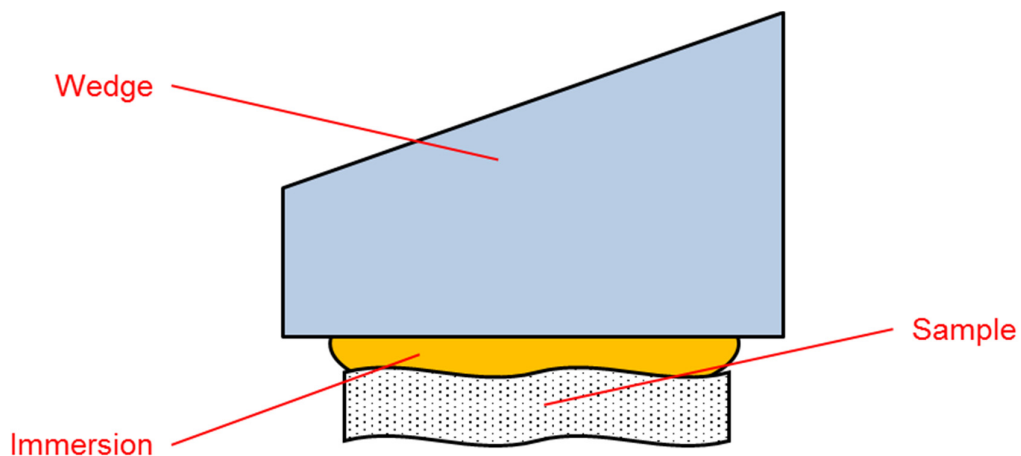

Figure 48 Avoiding Strong Surface Reflection by Use of an Immersed Wedge
- Introduction of a wedge into the optical path (first reflex reflecting outside of NA) and immersion (see Figure 48)